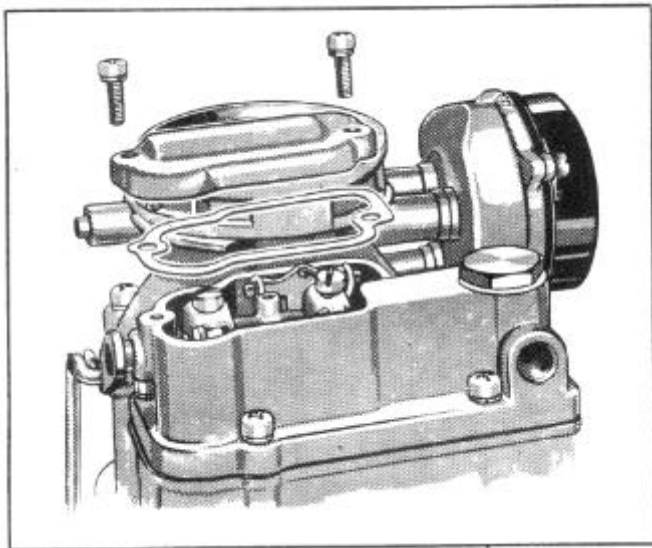

FIGURE 53
1. Remove the dust cover screws, cover and gasket, Figure 53.